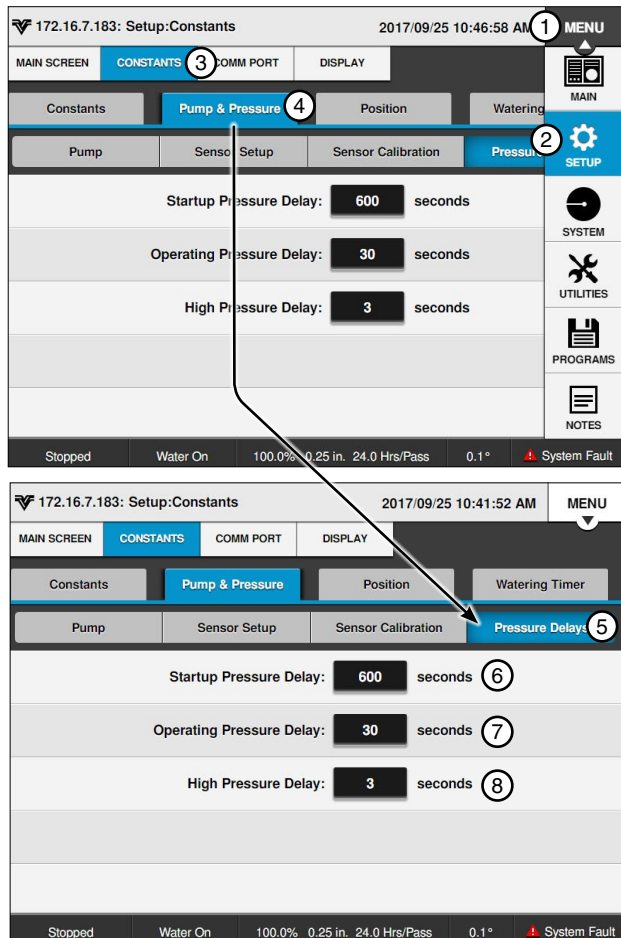

Figure 24-1 1. Menu 5. Pressure Delays
The Pressure Delay Setup screen provides the ability to set the pressure delays for Startup, Operating, and High Pressure. Push **Menu**, **Setup**, **Constants**, **Pump & Pressure**, and push the **Pressure Delays** button to display the Pressure Delay Setup screen. Refer to Figure 24-1.
Startup Pressure Delay bypasses the pressure transducer for the amount of time required in seconds for the machine to initially build water pressure above the low pressure limit after the pump has been started. The Startup Pressure Delay setting has a range of 0 to 5000 seconds. The factory default is set to 600 seconds, or 10 minutes. Refer to Figure 24-1.
1. Push **Menu**, **Setup**, **Constants**, **Pump & Pressure**, and the **Pressure Delays** button to display the **Pressure Delays** screen. Refer to Figure 24-1.